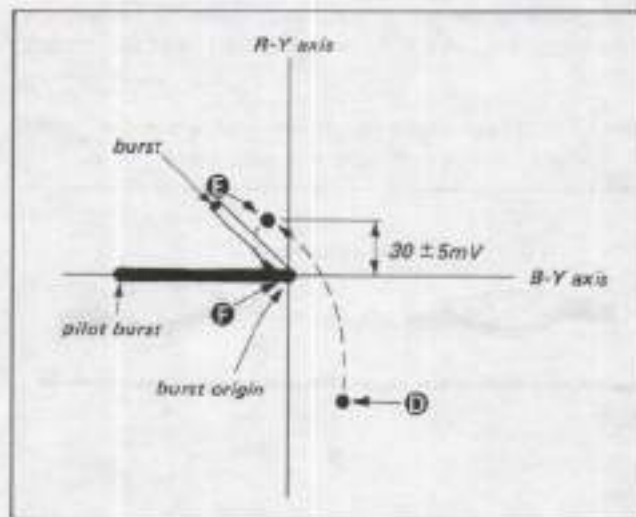

Fig. 2-28
- 8) Set to recording mode and confirm that the white luminescent spot is below (slightly right) the B-Y axis. (Fig. 2-28 Ⓐ)
- 9) Move the white luminescent spot to a position $30 \pm 5mV$ above (slightly left) the B-Y axis with PM-2 board RV711 (RG). (Fig. 2-28 Ⓑ)
- 11) Set to recording mode and confirm that the white luminescent spot and burst origin match, and that the white balance warning lamp does not light up. (Fig. 2-28 Ⓒ)